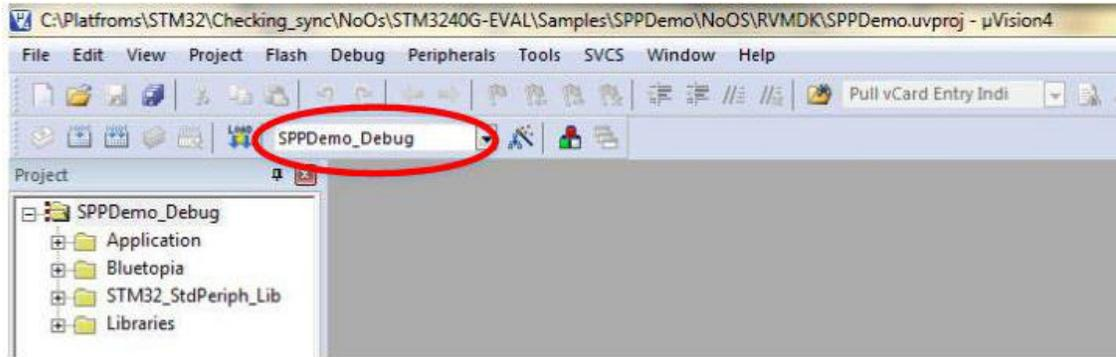

Figure 7-5. Debug Drop-Down Menu
7. Select *Debug* or *Release Configuration* from the drop-down menu. (For this example, select *Debug* [See Figure 7-5].)